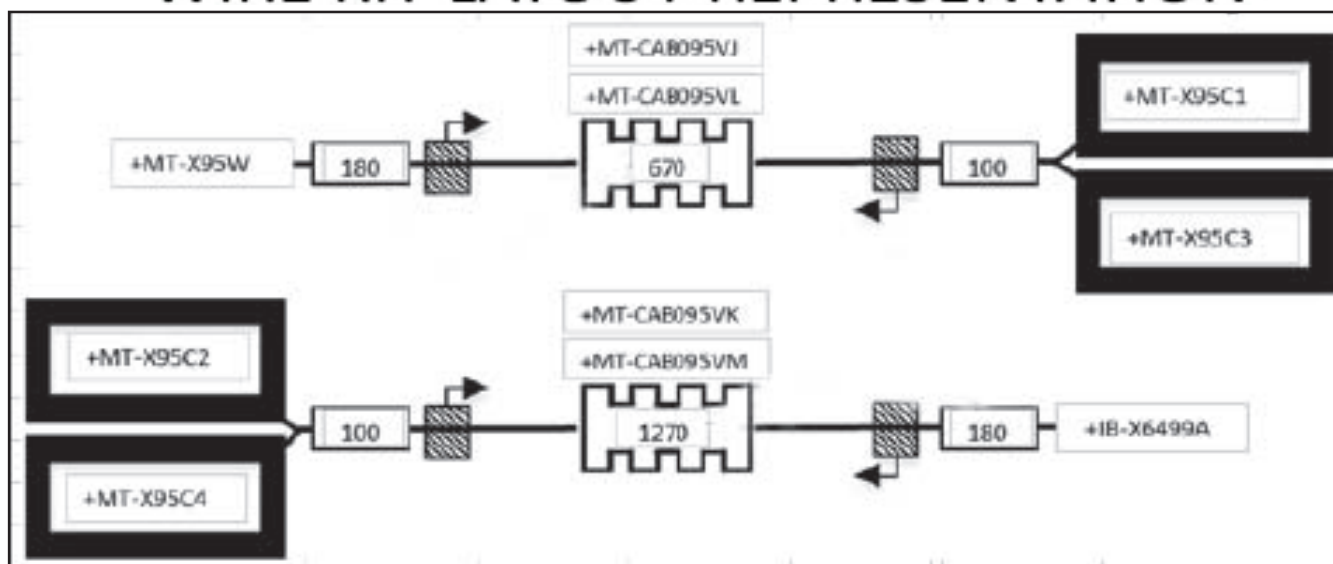

Figure 1 - Bypass Cable Wire Kit
1.1. Bypass cable kit N632000435 (see Figure 1).